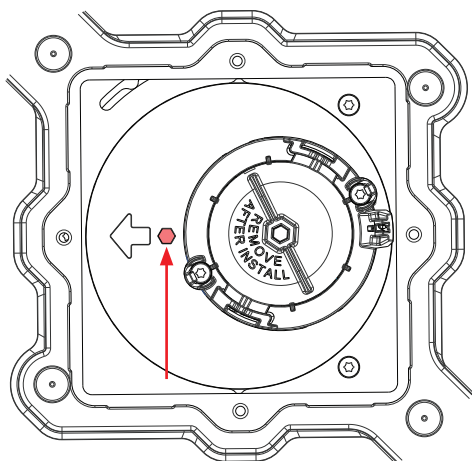

fig. 28
2. Insert the 4 mm hex tool into the hex-shaped pocket directly behind the arrow on the base plate (see fig. 28).